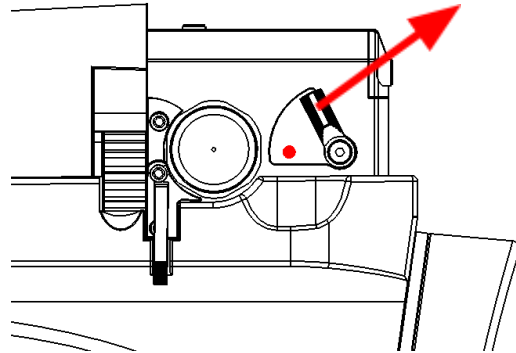

Figure.3
- ❖ (Figure 3) Push the SAFETY lever in the direction of the arrow, to the “off position” . The gun can be fired. (The red dot is visible)